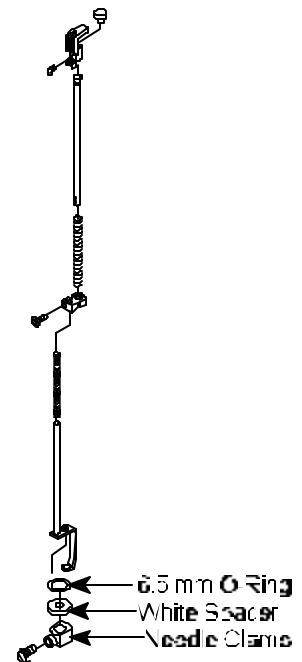

Figure 4
9. While Needle Bar remains lowered **remove** needle clamp, white spacer and 6.5 mm O-ring. See Figure 4.